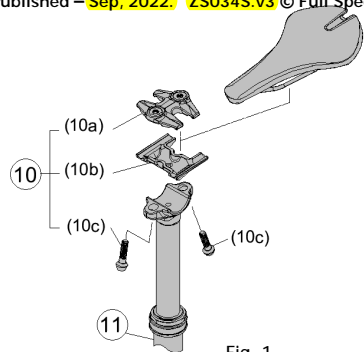

Fig. 1
4. Install Seatpost ⑪ into frame at approximately the correct max saddle height. Turn handlebars 90 degrees and mark where to cut housing. Correct length is when the housing is tight but not binding in this position (you may want extra length for saddle height adjustment). (Fig. 1)
6. Cut cable housing ④ at mark, and install housing ferrule on end.